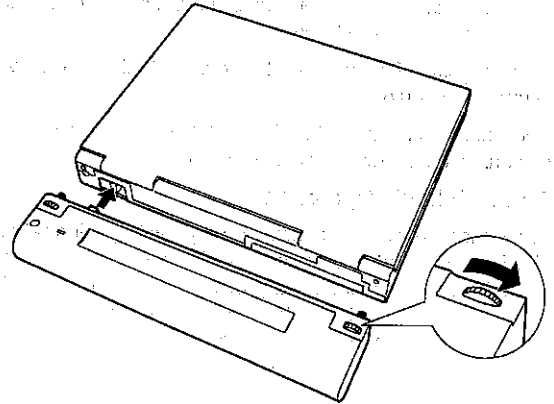

Fig. 11-1
- Turn off the power and place the computer and battery pack as shown in Fig. 11-1.